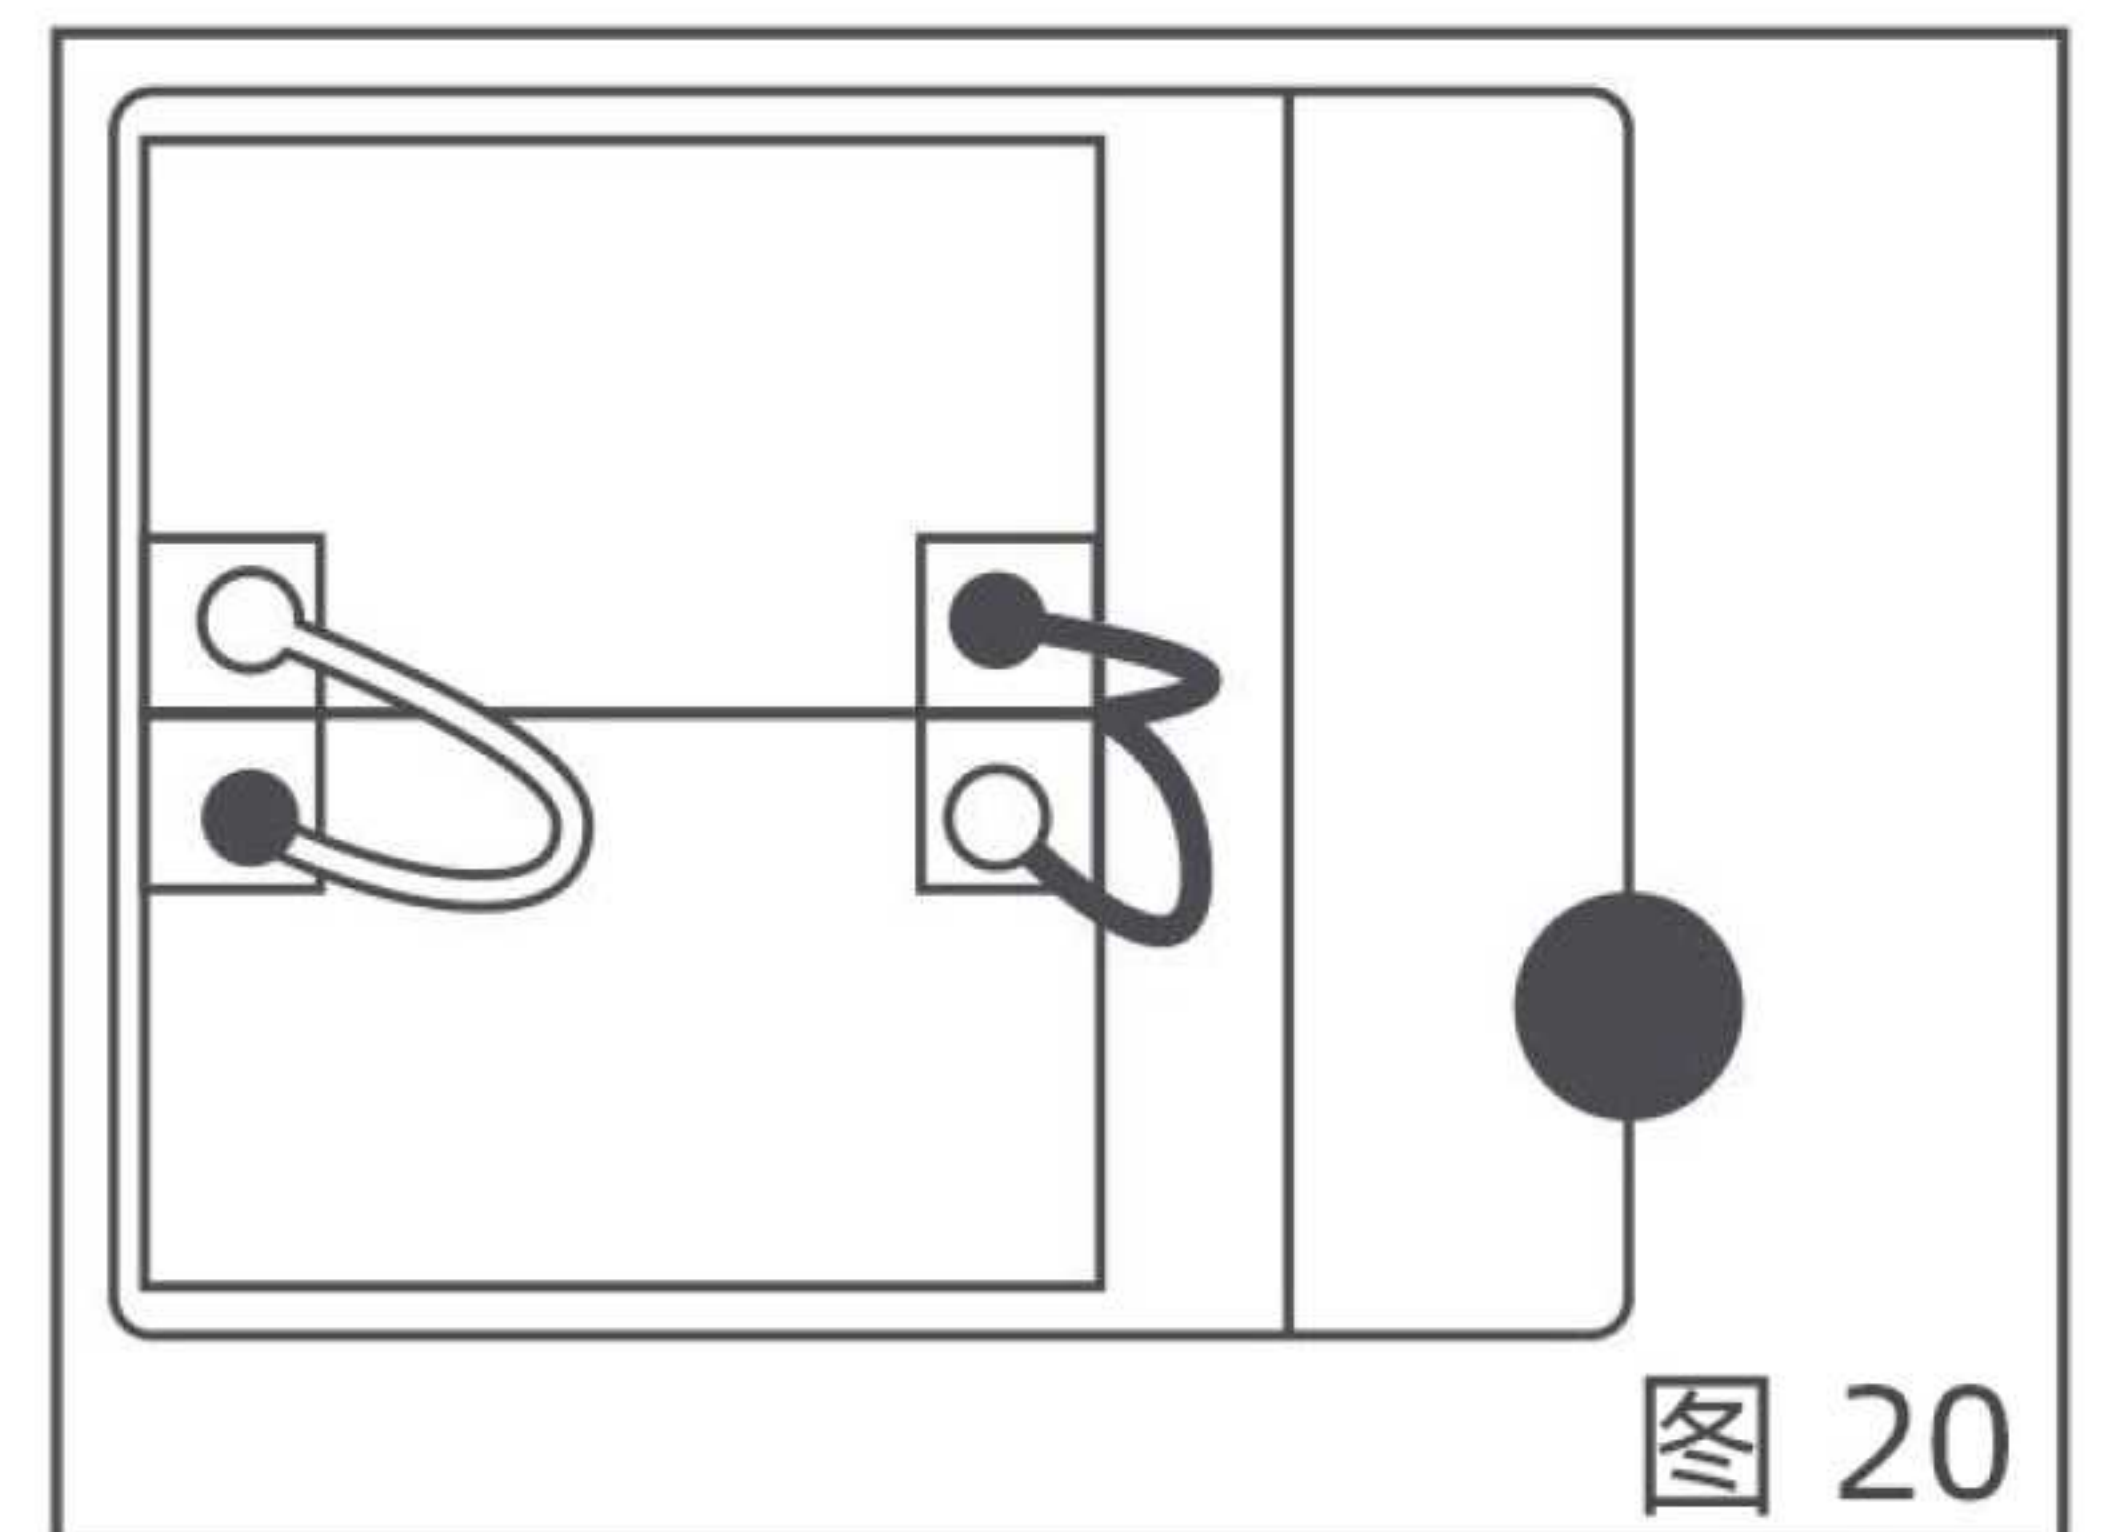

图 20
- 用干燥抹布擦拭电瓶顶端，清除灰尘、油污及电解液结晶，并检查电瓶正负极接线端子是否松动（图 20）。
Wipe the top of the battery with a dry cloth to remove dust, oil and electrolyte crystals, and check if the positive and negative terminals of the battery are loose (Figure 20).